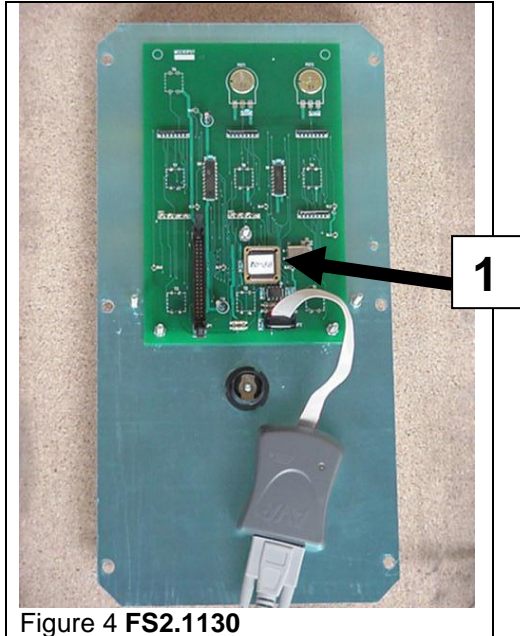

Figure 4 **FS2.1130**
8. Select the microcontroller AT90S8535 (**check the correct microcontroller on board FS2.1130**) (Ref 1 Figure 4)